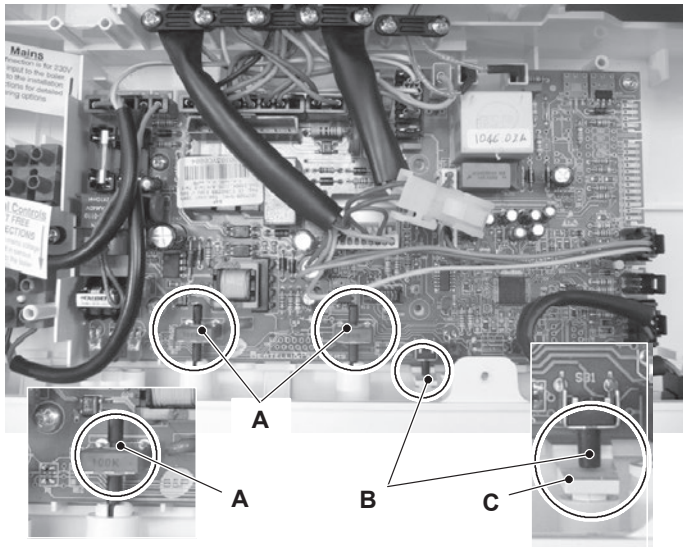

Figure 10.24
- 8 Insert the spindles in the control panel knobs until the notch A (Figure 10.24) reaches the potentiometer edge. It is not necessary to force them in the knob.
- 9 While tightening the screws that fix the Electronic control/ignition p.c.b. on the control panel, keep the p.c.b. towards the control panel fascia making sure of the contact between the boiler reset button B and the tab C (Figure 10.24).